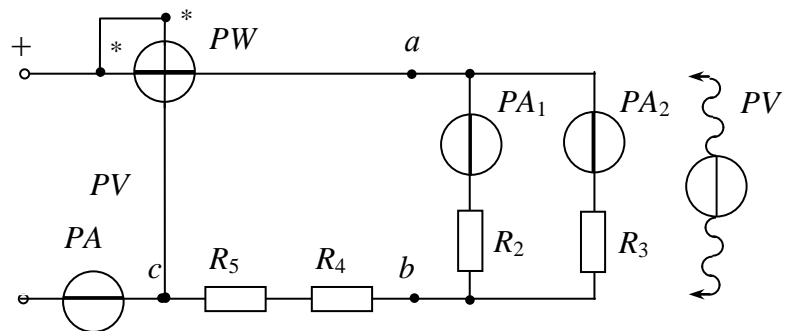

Fig. 2.18
1. To collect the circuit (fig. 2.18) and connect it to the clamps $<->$ $<0 \div 120 V>$. To place *LATR* switch in position $<->$, $<0 \div 120 V>$.
2. To investigate the circuit with mixed connection of resistors (fig. 2.18). To set the input voltage given by tutor ($80 \leq V \leq 100 V$). To write down the results to the table 2.2 item 2.
3. To investigate the circuit with parallel connection of resistors R_2, R_3 . To short the series subcircuit R_4, R_5 (points b, c fig. 2.18). To set the input voltage given by tutor ($14 \leq V \leq 18 V$). To write down the results to the table 2.3.
4. To investigate the circuit serial connection of resistors R_4, R_5 . To shorten the parallel subcircuit R_2, R_3 (points a, b fig. 2.18). To set the circuit current given by tutor ($170 \leq I \leq 200 mA$). To write down the results to the table 2.4.
The name and purpose of the work. Homework – the calculation of the circuit. Schematic diagram of the investigated circuit (fig 2.18). Tables 2.2, 2.3, 2.4. The schemes of circuits of current divider and voltage divider. The results of calculations. Conclusions.